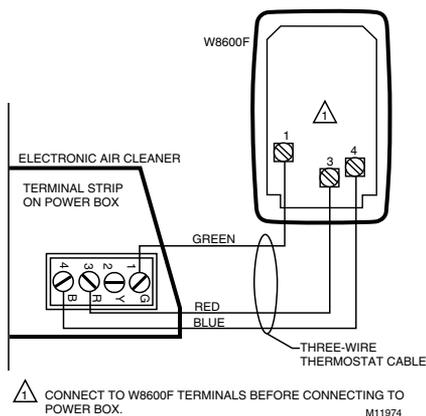

Fig. 4. Schematic for wiring W8600F to F50F.
- If a W8600F is used, first attach the wires to the W8600F and then attach the wires to the air cleaner power box terminal board. See Fig. 4 and the W8600F installation literature, form 69-1200.
Choose a location for the W8600F if it is part of the installation. The W8600F is designed to mount next to your thermostat, or in any convenient visible area (such as utility room) where it can be seen as it monitors the air cleaner performance. It shares no electrical connections with the thermostat. To install the W8600F, see Fig. 4 and refer to the Installations Instructions, form 69-1200, included with the air cleaner monitor.